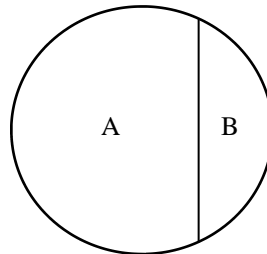

Figure 1
- A) The first type, which is our standard, is the result of a shear cut of the pin. This process produces two distinct areas on the end of the pin as shown in Figure 1 – these areas are separated by a straight line. Area A will be equal to or greater than 75% of the pin end area and will have a finish of 32 μ in. or better. Area B will have a rougher, grainier surface, caused by tensile failure on the balance of the pin during the cutting process.
- B) The second type of finish we offer is the ground flat (GF), which provides a ground pin end of 32 μ in. or better over the entire pin end.